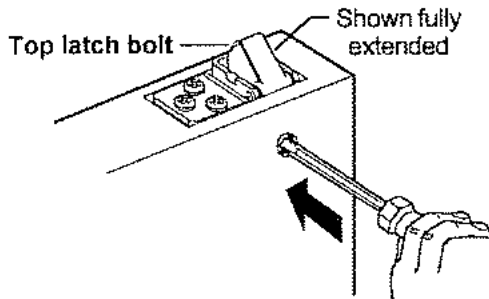

Figure 1
1. Open door and release top latch bolt as shown (Figure 1).
5. Rotate top adjusting screw clockwise until top latch bolt is fully extended (Figure 1).